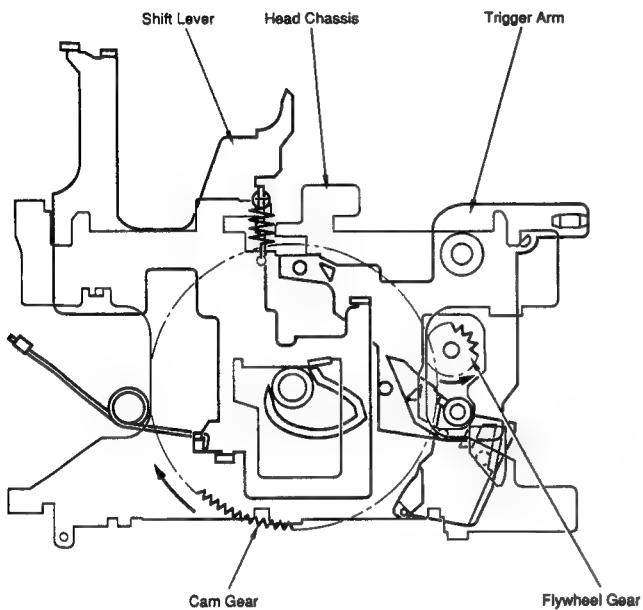

FIG. 4
4. The flywheel gear rotated by the main monitor begins to engage the cam gear, and the cam gear further rotates, raising the shift lever and the head chassis. [Fig. 4, 5]